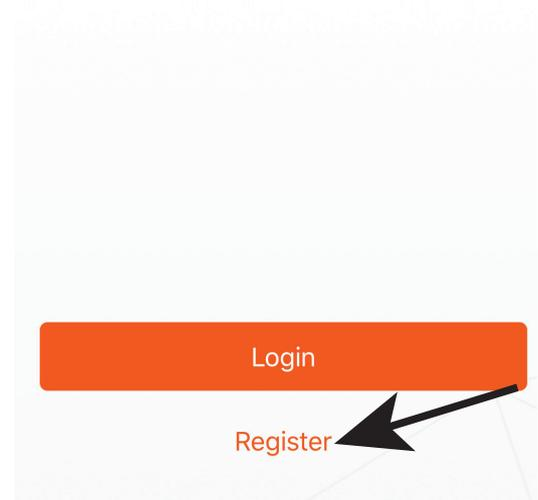

Fig 1
Step 3: Open the V-TAC Smart Light app and tap on register for creating a new account. If you already have an existing account, please proceed to please proceed to logging in.(Ref Fig 1)